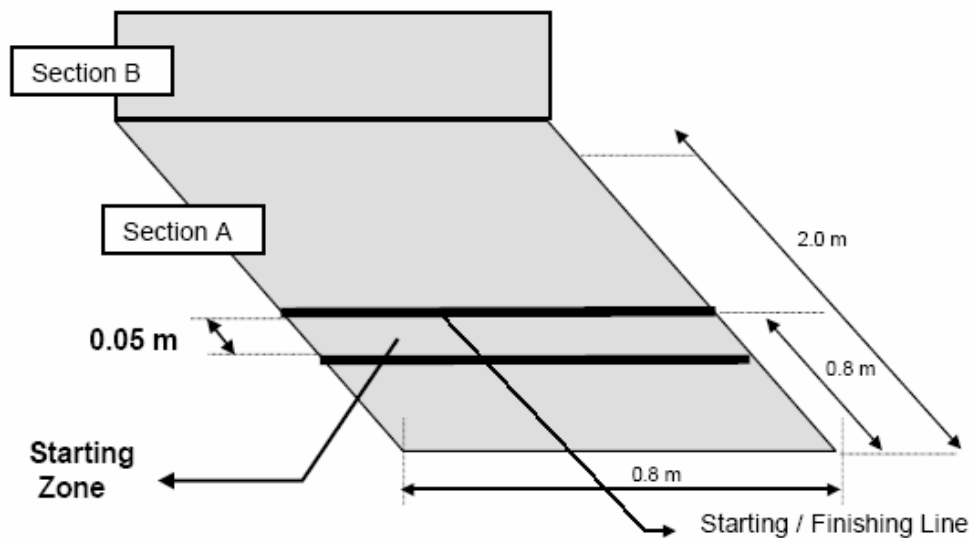

Figure 2: The starting zone for the wall-climbing robot race viewed from above wall-section A
- 3.1 Robots will start from a stationary position with the front-most part of the robot lying within a 0.05 m deep starting zone demarcated by the inner edges of the two lines positioned across wall section A on the ground. (see Figure 2.)